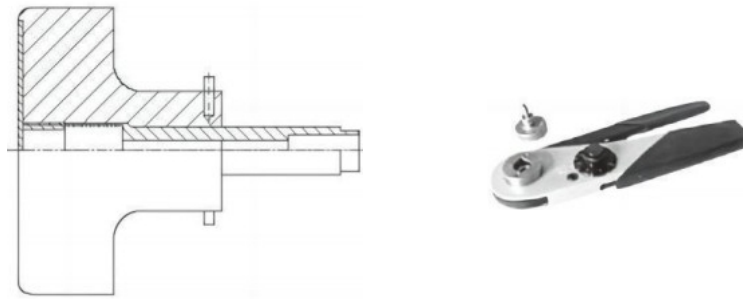

Figure 5: Positioners (XDWQ-03Z,03K,06,07) for YJQ crimping pliers; Table 3
The axial locator is used to fix the contact parts axially, ensuring correct and reliable crimping positions. The YJQ crimping pliers are equipped with four specifications of locators, as shown in Figure 5, to accommodate...
⑤ Then, install the front insulator onto the central socket according to Figure 5, ensuring its tail tightly adjoins the step portion of the rear insulator.